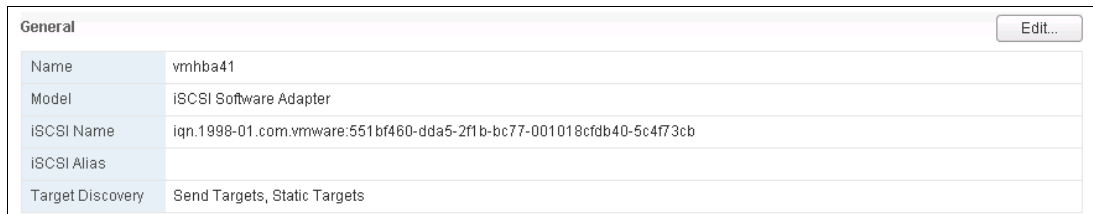

Figure 5-32 Enabled VMware iSCSI initiator
14. The VMware ESX iSCSI initiator is successfully enabled (see Figure 5-32). Document the initiator name for later use.